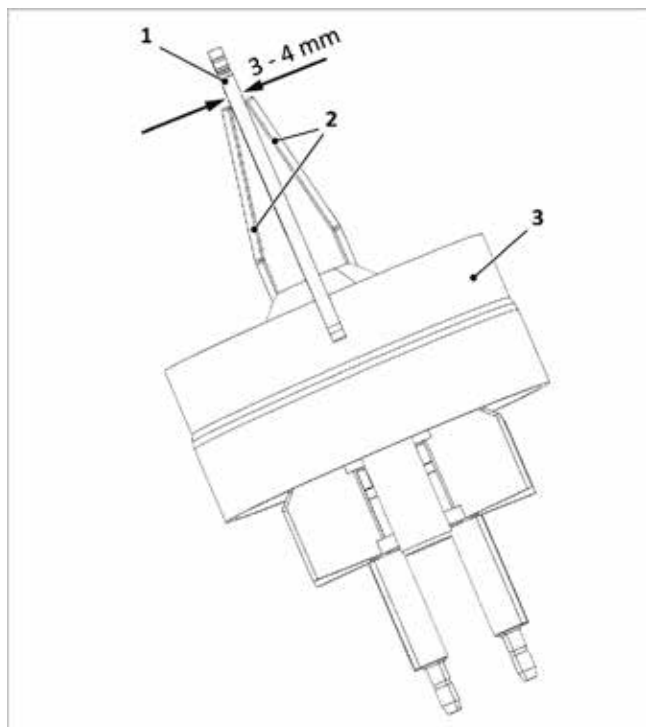

Fig. 145: Checking the ignition electrode gaps
3. Check the electrode gaps as shown in → fig. 145 and correct by bending them, if necessary.